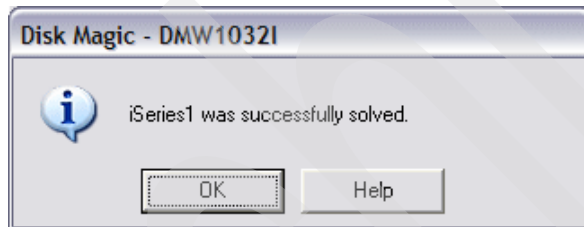

Figure 4-40 Solving the model of planned scenario
9. A Disk Magic message displays indicating that the model of planned scenario is successfully solved (Figure 4-40). Click **OK** to solve the model of iSeries or i5/OS workload on DS.